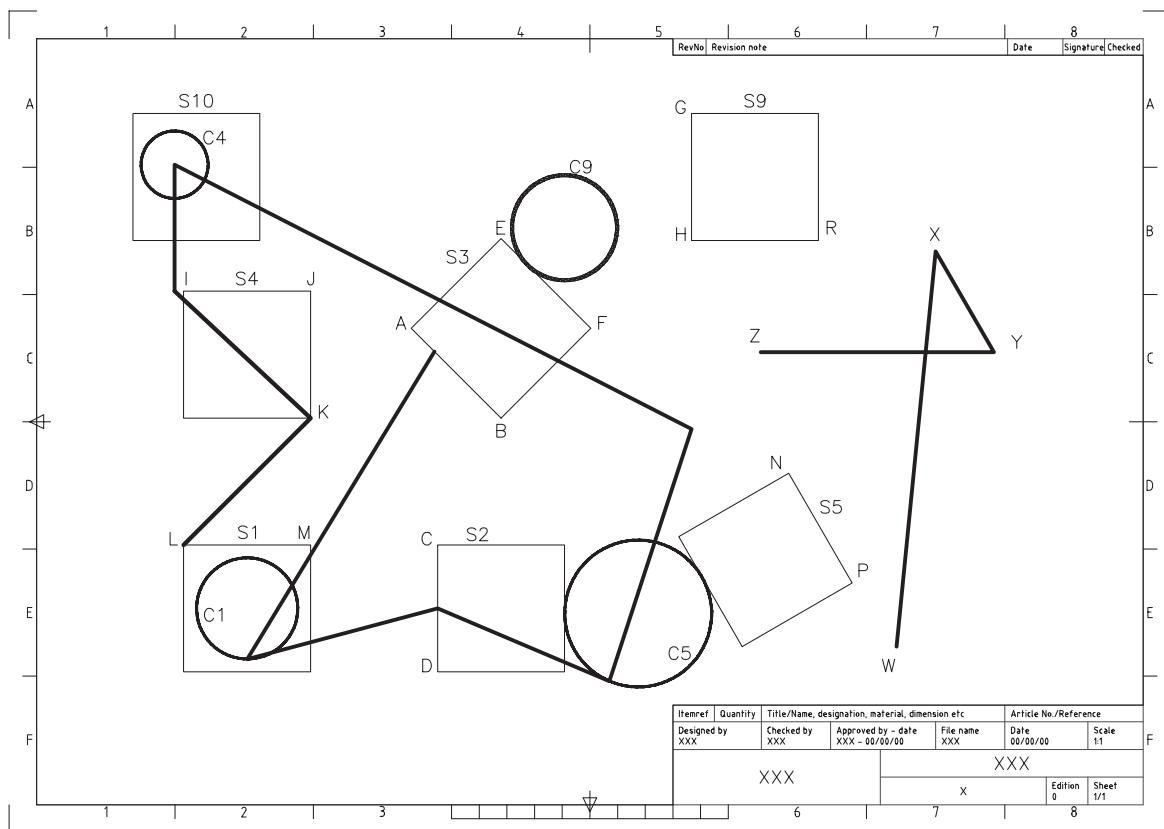

Figure 8.1 Using Object Snap to draw line and circle objects.
- 4 Now refer to Figure 8.1.
- 4 The line segments should be as displayed in Figure 8.1.